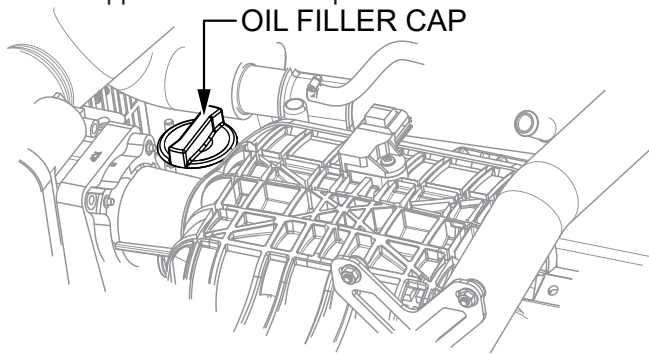

Figure 10. Oil Filler Cap
4. If the oil is below the lower mark on the dipstick, remove the oil filler cap (Figure 10) and add engine oil up to the upper mark on the dipstick.